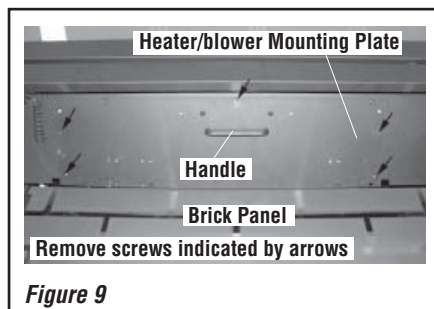

Figure 9
5. Remove the screws which secure the heater blower mounting plate using a phillips screwdriver as follows (see **Figures 9 & 10**):
- a. While using one hand to hold the handle of the heater/blower assembly (see **Figure 9**), remove the 5 screws which secure the mounting plate. **Remove the 4 side screws first (2 on each side). Remove the middle screw that is on the top of the handle last.**